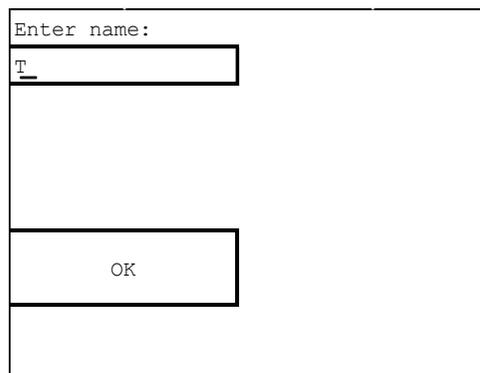

Fig.20
3. press the encoder knob to confirm the entry of the alphanumeric character selected (see fig.20);